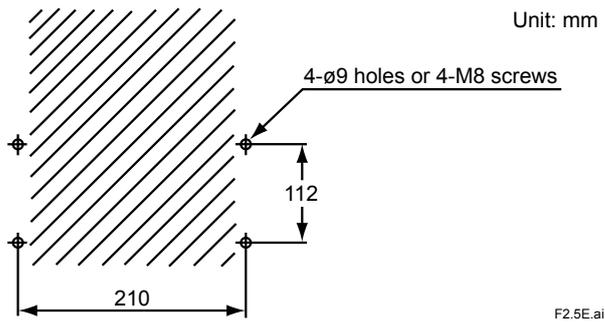

Figure 2.10 Machining of Mounting Holes
- (1) Drill four mounting holes on the wall as shown in Figure 2.10.